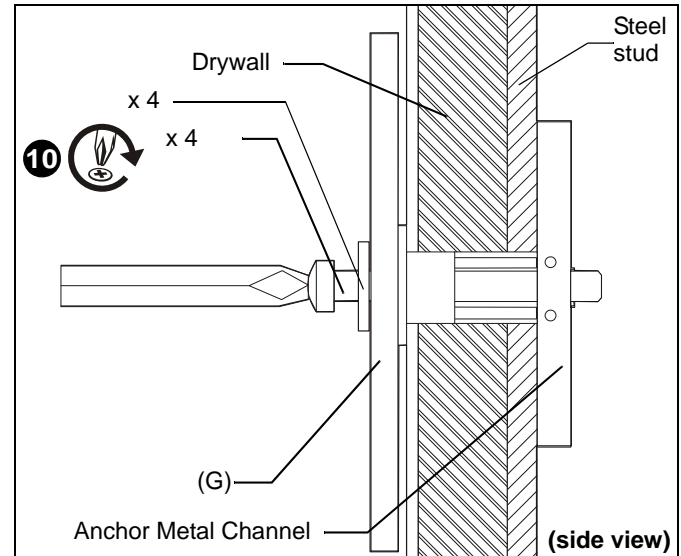

Figure 8
7. Place wall bracket over anchor and align mounting hole in wall bracket with hole in anchor. (See Figure 8)
8. Insert Grade 2 or better 1/4-20 x 1-3/4" Phillips pan head screw (not included) through Grade 2 or better 1/4" washer (not included), corresponding mounting hole on wall bracket and into Snap-Toggle (not included) and tighten until flush against mount. DO NOT overtighten! (See Figure 8)